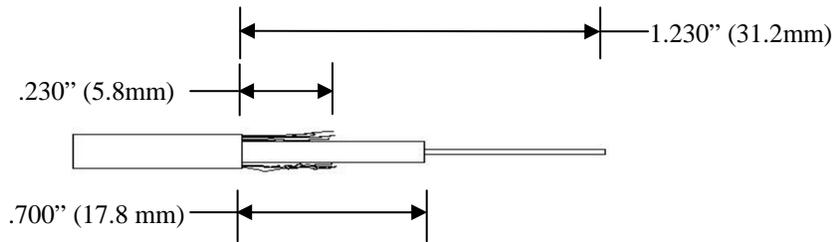

Figure 3: Style 2 Socket Terminus Strip Lengths
1. Strip cable Jacket and cut strength member to specified length (See figures 3 and 4 for recommendations).